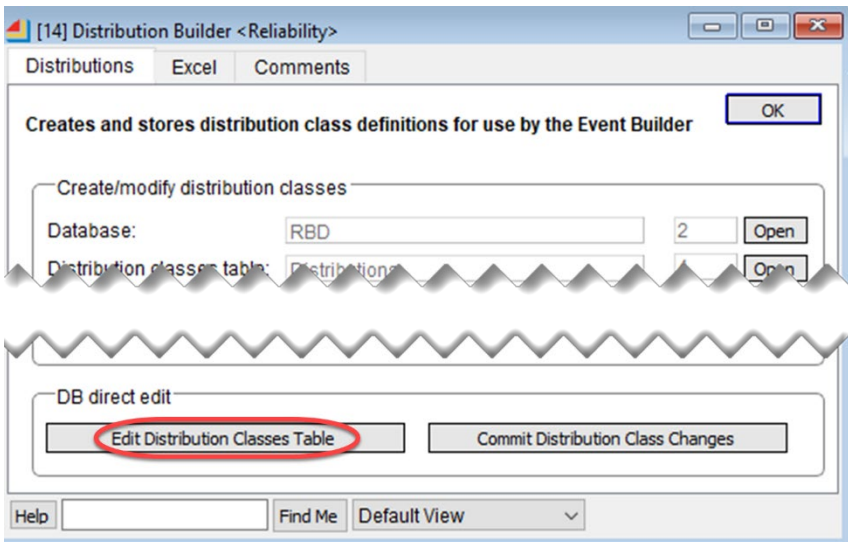

Figure 11-7: Selecting the distributions classes table for editing
Step 4: Use the **Distributions Builder** to define the distributions for TBD/TTD and TTU. On the **Distribution** tab, as shown in *Figure 11-7*.